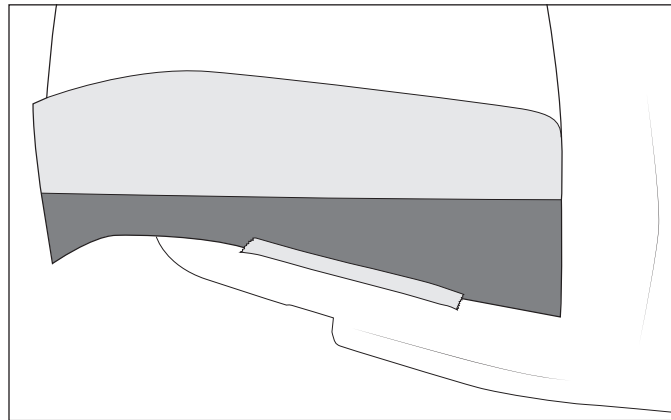

Figure 10
14. Create a hinge on the upper vinyl using tape as shown below (fig. 10).